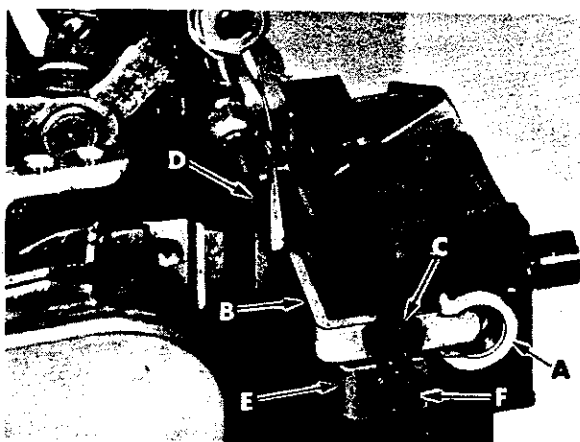

Fig. 9
Remove spring from inside of lower knife holder (A, Fig. 9), then reassemble knife holder into throat plate support block. Replace rear needle guard (B) using screw (C) with front edge of guard centered in slot of knife holder as shown. Temporarily tighten screw (C) to hold guard in position, yet allowing guard to be adjusted. Rotate handwheel in operating direction until lower looper/spreader (D) travels from extreme left into scarf of needle(s). Set guarding SURFACE of needle guard (B) as low as possible to prevent it from interfering with needle thread as loop is being formed to rear of needle(s), then tighten screw (C) securely. Guard must NOT interfere with lower knife holder movement or come in contact with lower looper/spreader at any point of travel.
Replace front needle guard (E, Fig. 9) using screw (F). Temporarily tighten screw (F) to hold guard in position, yet allowing guard to be adjusted. Rotate handwheel in operating direction until needle(s) is at lowest position. Set guarding SURFACE of needle guard (E) to needle(s) with minimum clearance - approximately .004 inch (.10mm) and tighten screw (F) securely. Check to ensure needle(s) is NOT being pinched between front and rear needle guards.